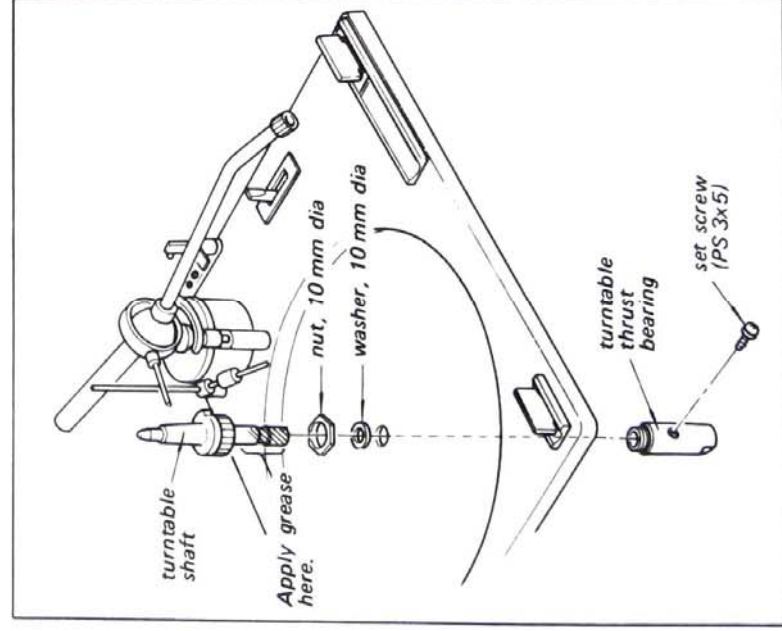

Fig. 2-4. Turntable shaft and turntable thrust bearing removal
3. Remove the nut and washer as shown in Fig. 2-4.
3. Pull out the turntable shaft by removing the set screw as shown in Fig. 2-4.
4. Apply grease (Part No. 7-662-001-11) on the turntable shaft as shown in Fig. 2-4, when reinstalling it.